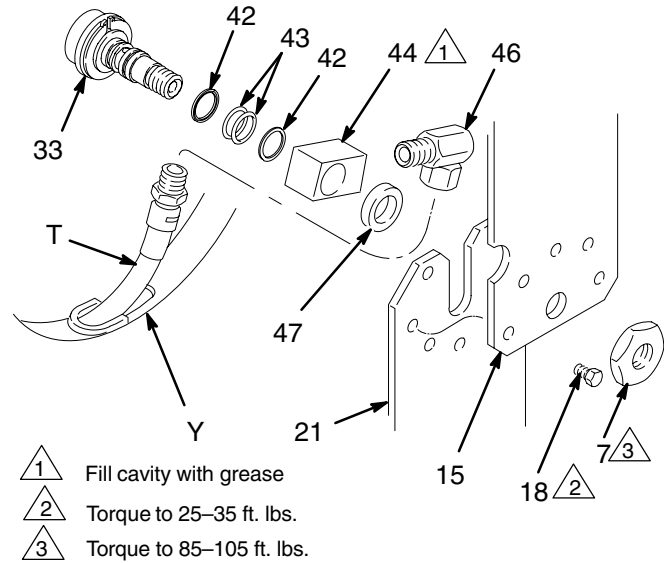

Fig. 11
5. Disassemble the swivel assembly as shown in Fig. 11 or 12, depending on your hose reel model. Clean the parts, and inspect them for wear or damage.
6. Grease the new parts, and fill the cavity of the swivel assembly (44 or 45) with high-quality grease. Install the parts as shown in Fig. 11 or 12.